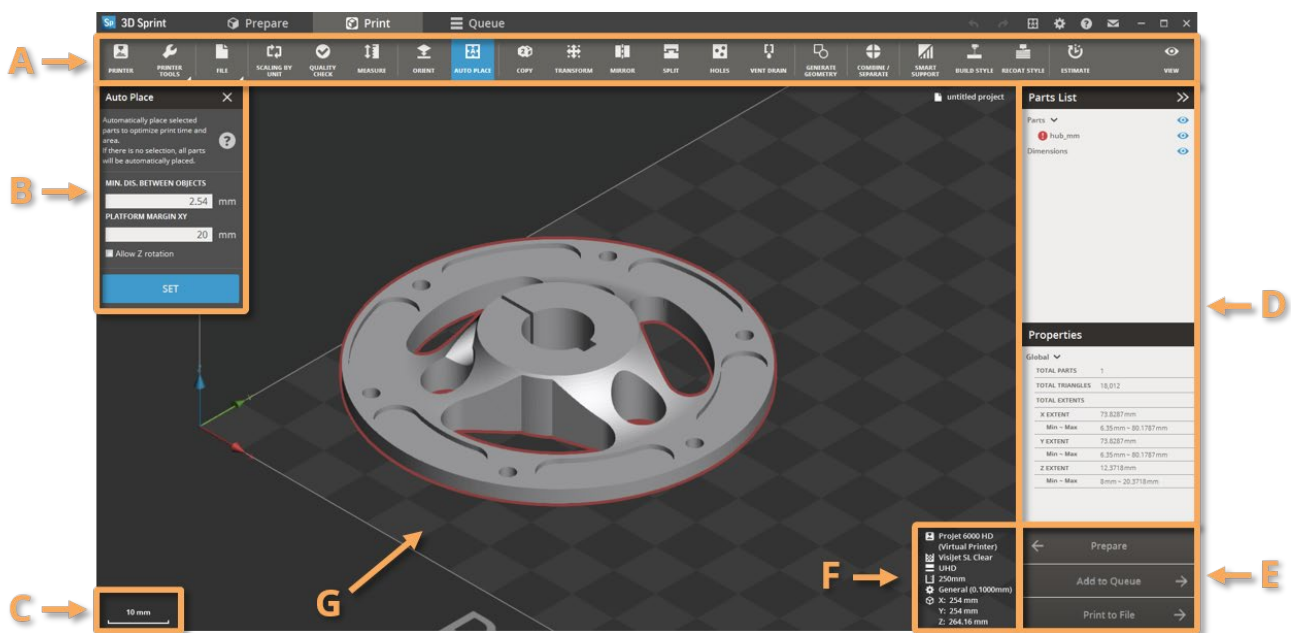

Figure 5 Main areas of the Print workspace
- Review the main areas of the **Print** workspace (Figure 5)